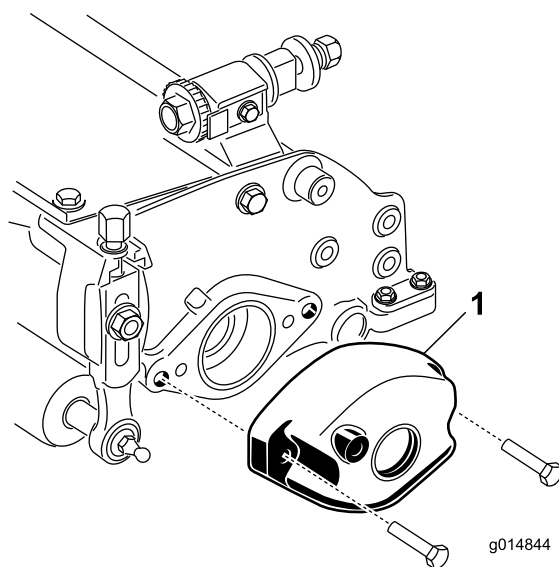

Figure 13
- A. Remove the 2 bolts securing the counter weight to the left end of the cutting unit. Remove the counter weight (Figure 13).